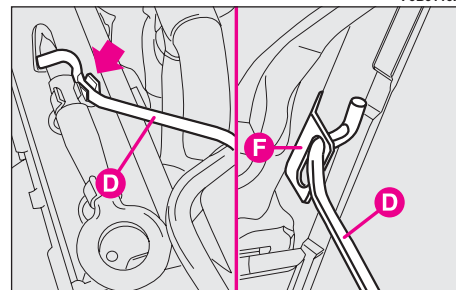

fig. 162
– lift the bonnet and, at the same time, release the support rod **D**-fig. 162 from its clip **E**;
– place the tip of the rod **D** in recess **F**-fig. 162 in the engine compartment.